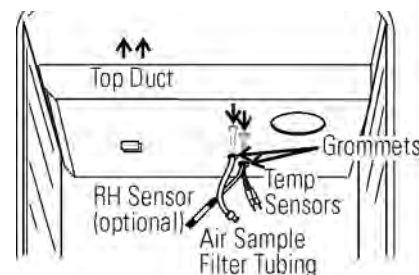

Figure 5-3. Feed Through Holes
13. Install the top duct by feeding the temperature sensors, air sample tubing (and RH sensor, if applicable) through the appropriate holes in the duct as it is raised to the top of the chamber. Be careful not to pull the grommets through the duct. See Figure 5-3.